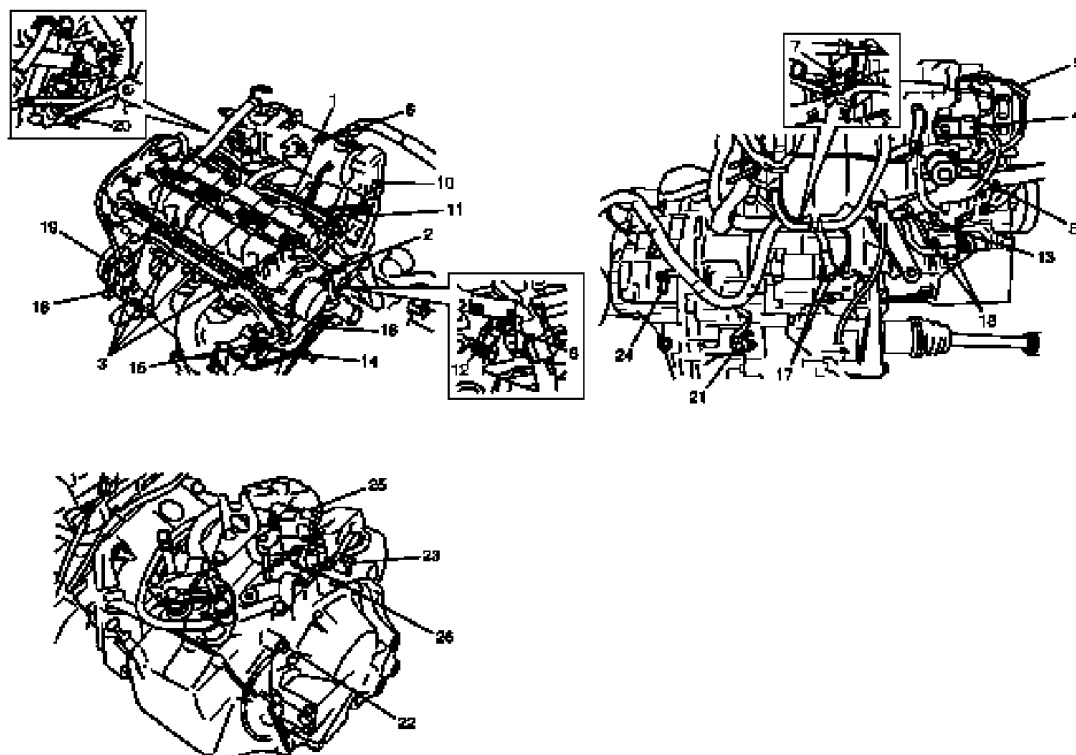

Fig. 45: Connector & Wire Identification
13. Disconnect the following connectors and wires: See **CONNECTOR & WIRE IDENTIFICATION** table. See **Fig. 45**.